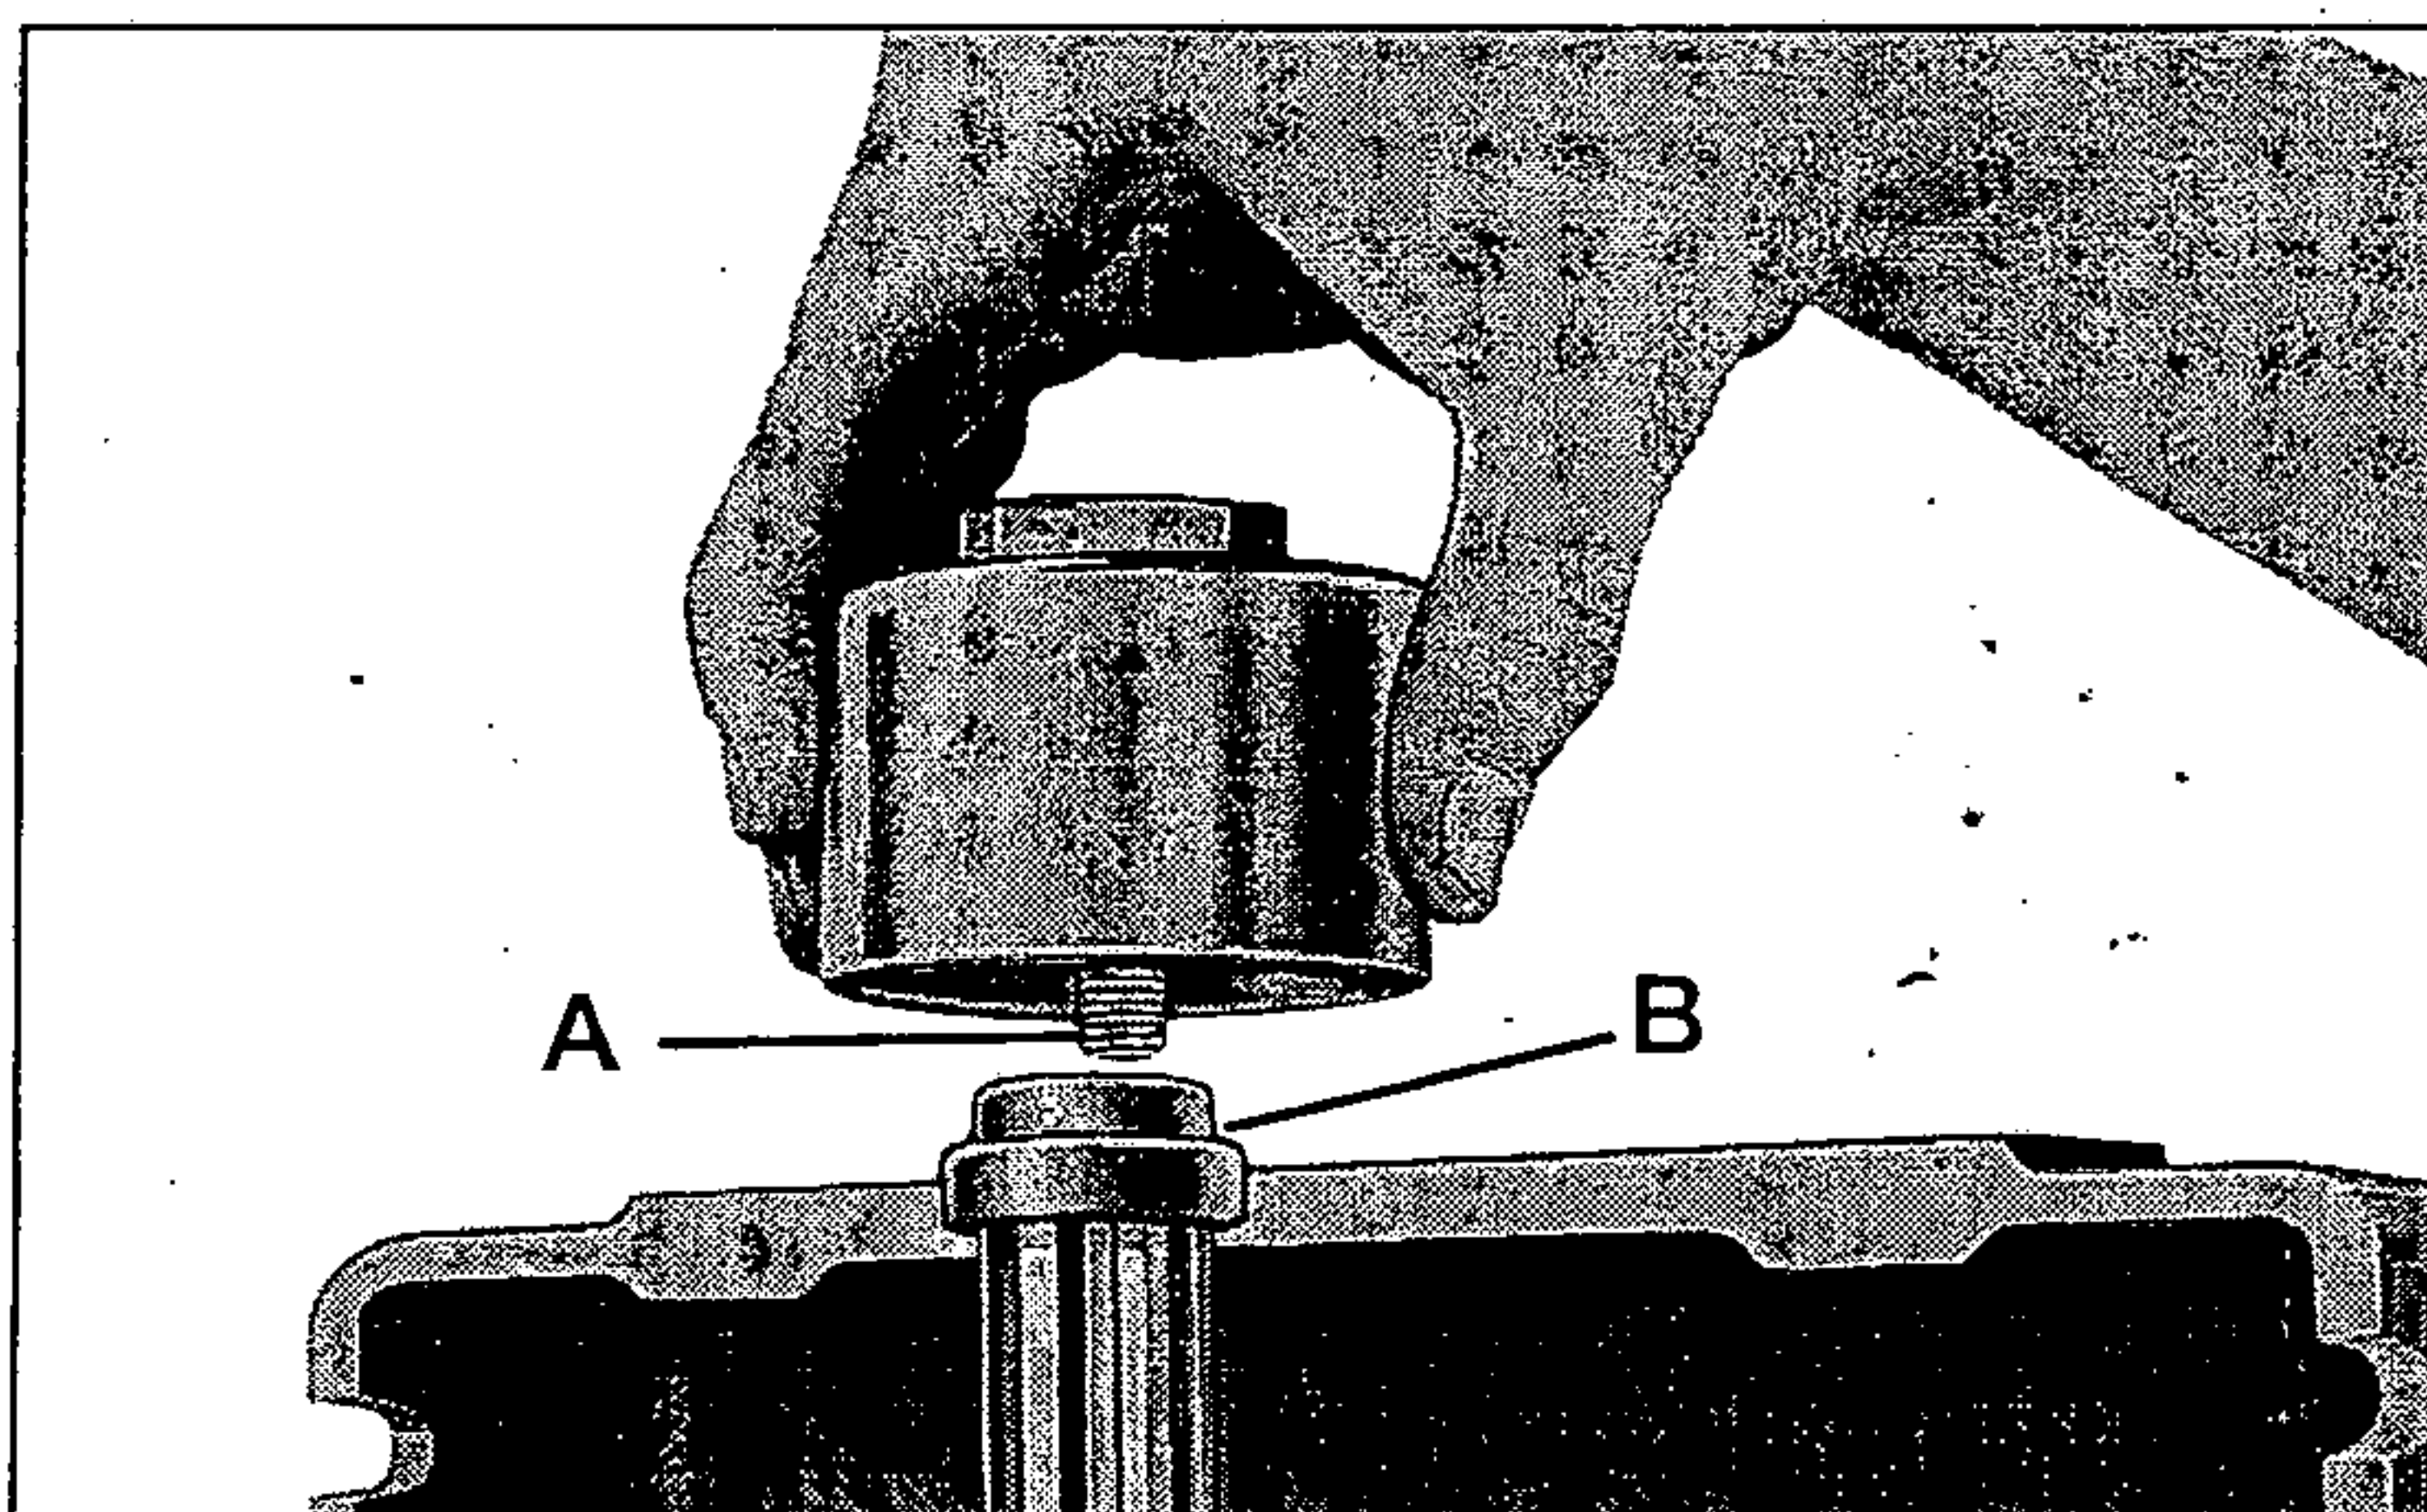

Figure 2
5. Place adapter (B, fig. 2) and bearing housing on top of spindle and tighten screw (A) securely.